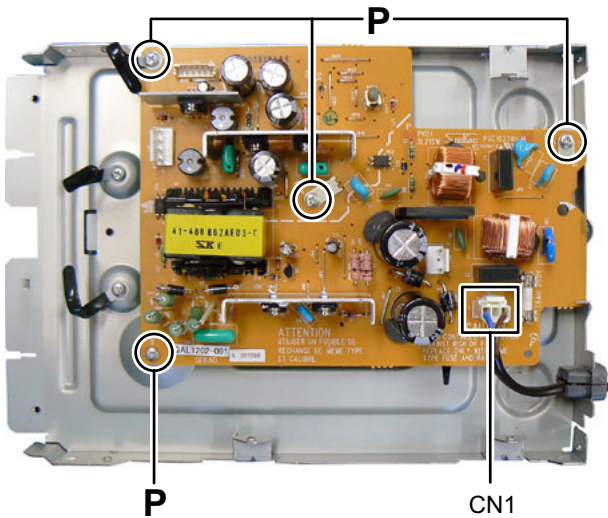

Fig.15
3.1.8 Removing the Power board (See Fig.15)